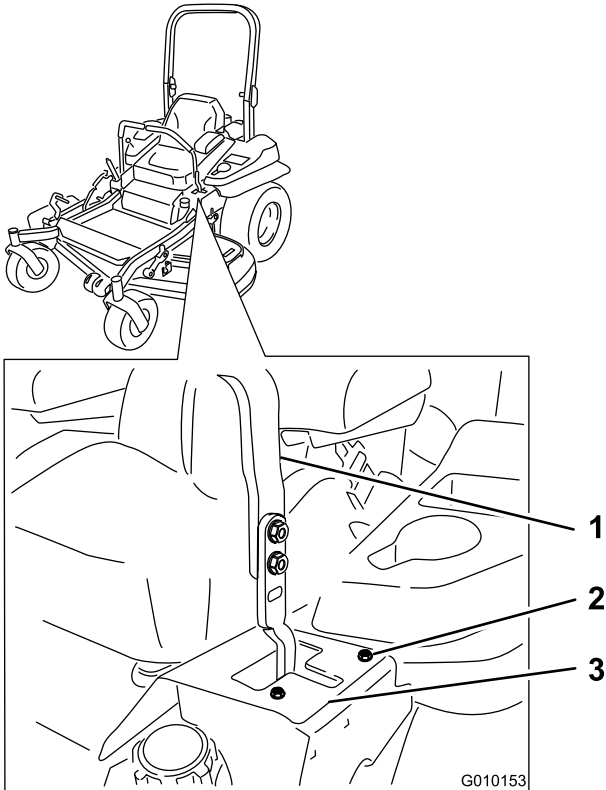

Figure 58
- If it tracks to the right, loosen the bolts and adjust the left stop plate rearward on the left T-slot until the machine tracks straight (Figure 58).
right T-slot until the machine tracks straight (Figure 58).
6. Tighten the stop plate (Figure 58).